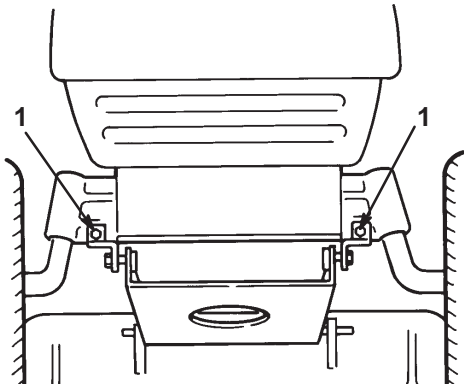

Figure 42
5. Install the mower pivot mount brackets to the front axle with bolts and locknuts (Fig. 42).